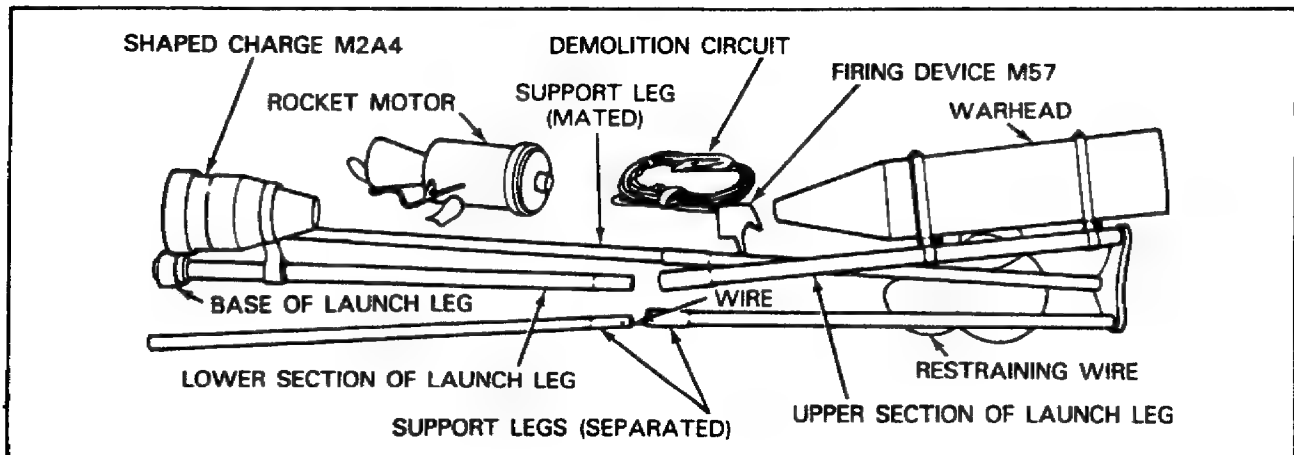

Figure 97. Demolition Kit, Cratering, M180.
**Demolition Kit, Cratering, M180.** Demolition kit, M180 (Figure 97) greatly reduces the time and labor required in cratering operations. This kit digs a hole, places a charge in the hole, and detonates the charge, all almost simultaneously. The kit consists of a tripod with a 15-pound shaped charge at the base of one leg. The cratering charge is mounted above the shaped charge in the form of a warhead and a rocket motor. When the kit is set up and fired, the shaped charge blasts a hole in the ground. The rocket motor is ignited, propelling the warhead into the hole. Finally, the warhead is detonated, creating the crater-all within a fraction of a second.